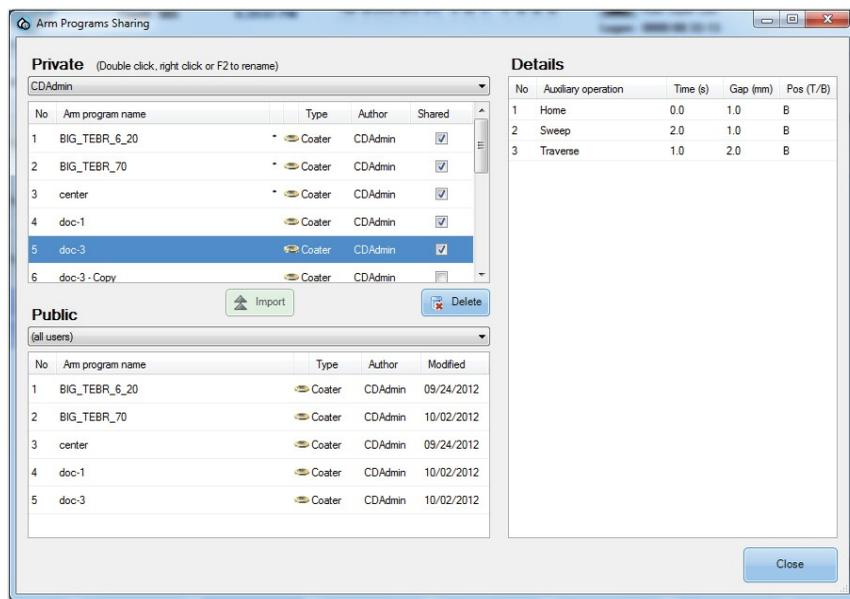

FIGURE 3-9: Sharing arm programs
- On the Arm Programs page, click **Share**. The Arm Programs Sharing dialog box opens. See Figure 3-9.